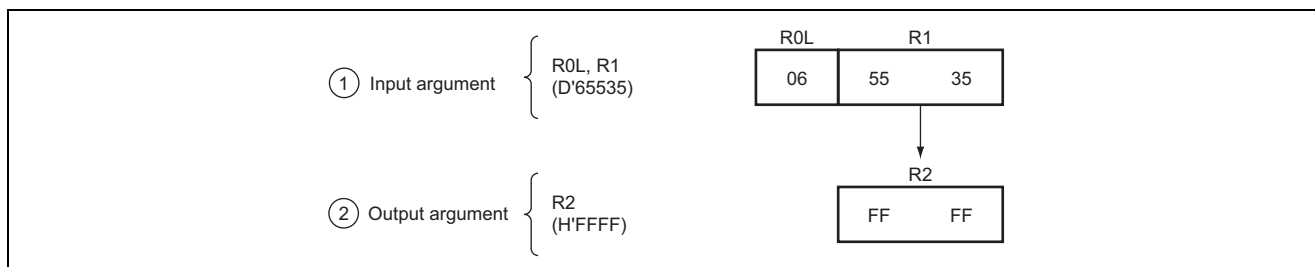

Figure 2 Example of BCD Execution
- Figure 2 illustrates the execution of the BCD subroutine. When the input argument is set as shown below, the subroutine sets the corresponding two-byte hexadecimal number in R2.